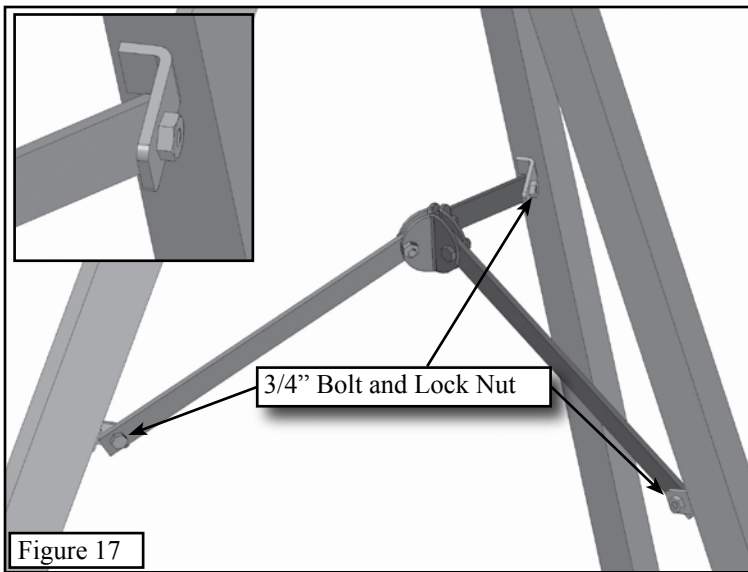

Figure 17
**Step 2.** Position the Center Support Assembly as shown in **Figure 17**.